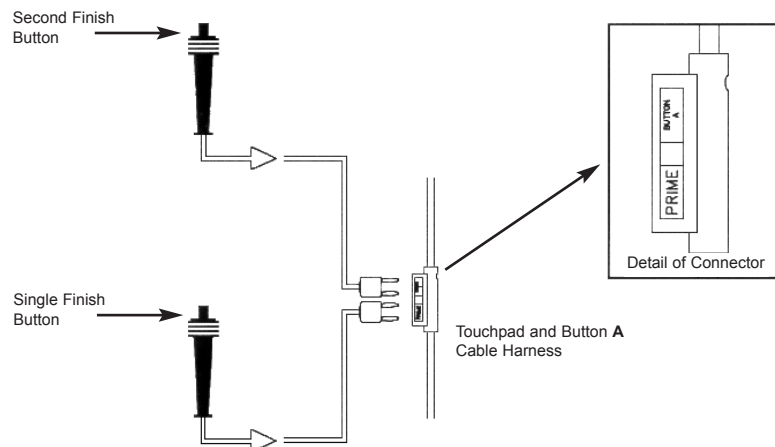

Figure 2-C Button Finish Connections
**Two Buttons:** If you are using 2 finish buttons, plug the second buttons into the A connectors on the touchpad and button A cable harness as shown in Figure 2-C. If a 2 button finish is used, the finish time is the average of the two button times recorded.